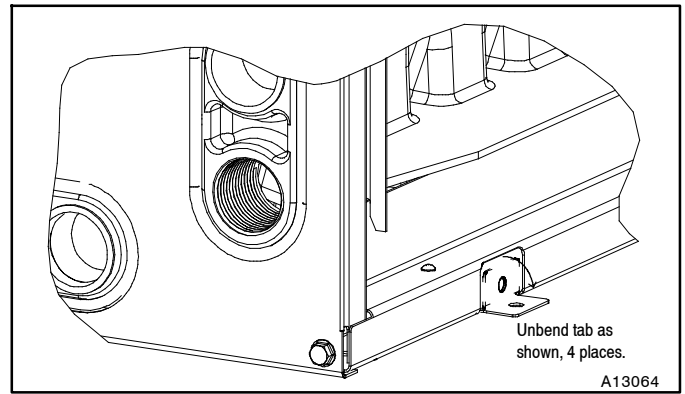

Figure 9 - Horizontal Left Installation
1. Unbend the 4 tabs at the right side of the casing. (See **Figure 9**)